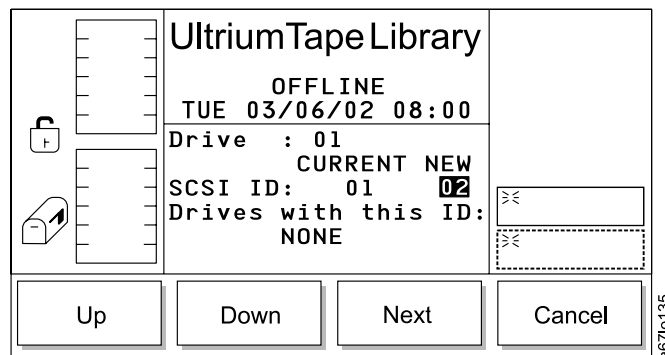

Figure 147. Drive SCSI ID Dialog
- If **Next** is selected, the Drive SCSI ID Dialog displays (see Figure 147).